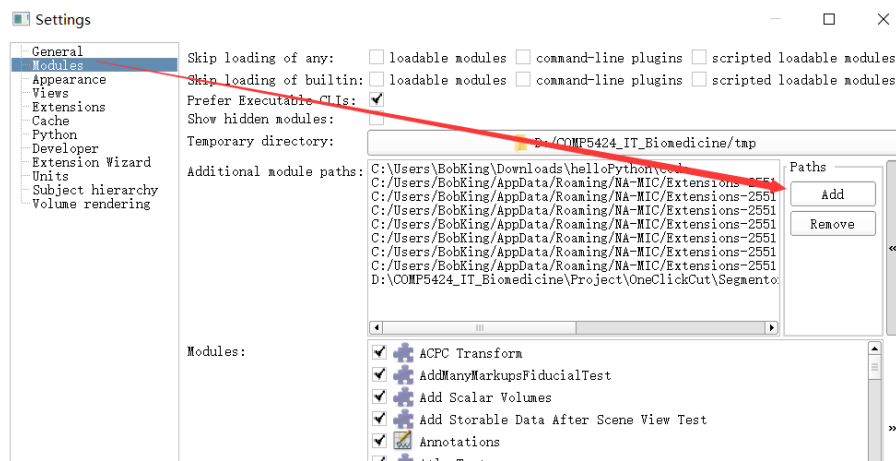

Figure 2 Settings dialog
The “Marker” listens to the mouse event and process such event, “Paint Effects” are applied to response to the user’s marking action, like the left picture of Figure 2:
- 2) Then, refinement methods are used to improve the initial segmentation results. (See 3.2 Segmentation method) The refinement results like the middle picture in Figure 2.
- 3) Using the refinement results as 3D label map to create a 3D model and present it to the 3D viewer, like the right picture in Figure 2.